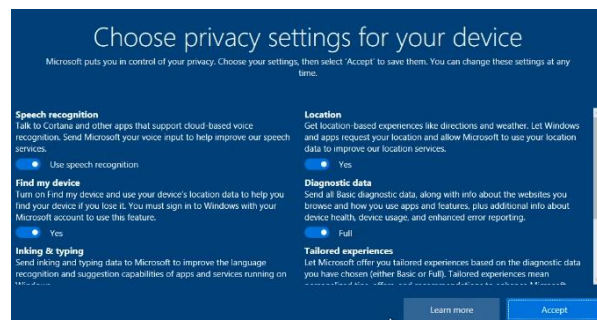

FIGURE 91: TESTOUT CORP. (2020, JANUARY 14). TESTOUT PC PRO (SECTION 10.3.4). RETRIEVED FROM
11.3.13. (See Fig. 91) On the next screen, you will be asked to set Privacy settings for this system.